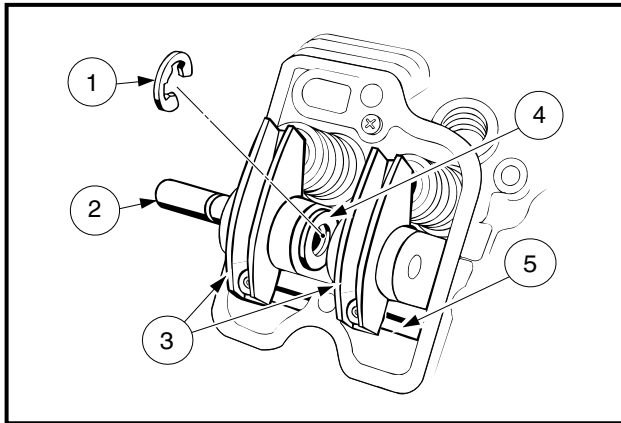

Figure 13-36 Cylinder Head Assembly
2. Making sure that each push rod (5) is in place between the rocker arm (3) and the hydraulic lifter as shown, put the rocker shaft (2) into the posts through the rocker arm (3) and washer (4) (Figure 13-36, Page 13-20).
3. Slide the washer (4) against the exhaust rocker, and fit the E-ring (1) into the groove in the rocker shaft (2) (Figure 13-36, Page 13-20).